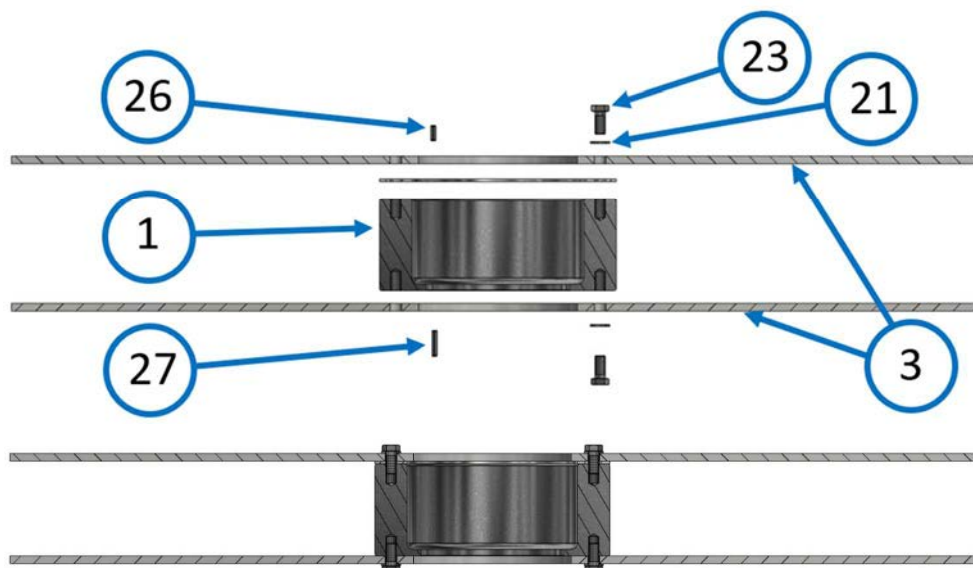

Figure 2.10: hub with external/external extended flange mounted
COFIMCO supplies the G class hub disc already assembled, see figure 2.10.
**ATTENTION:** the bolt to be fitted on the hub [23] (figure 2.10) should not be loose or removed.